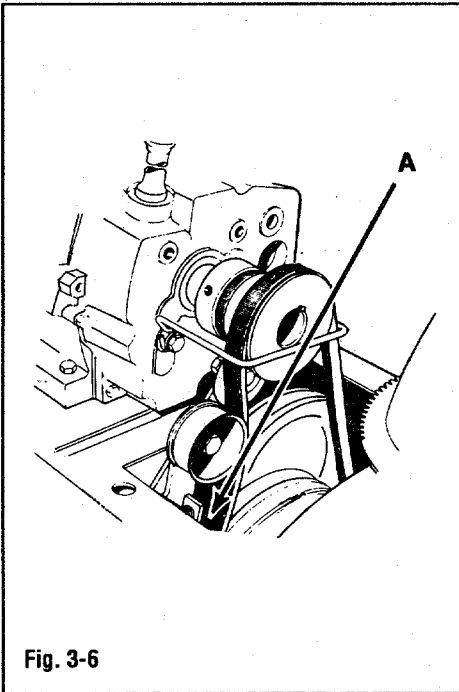
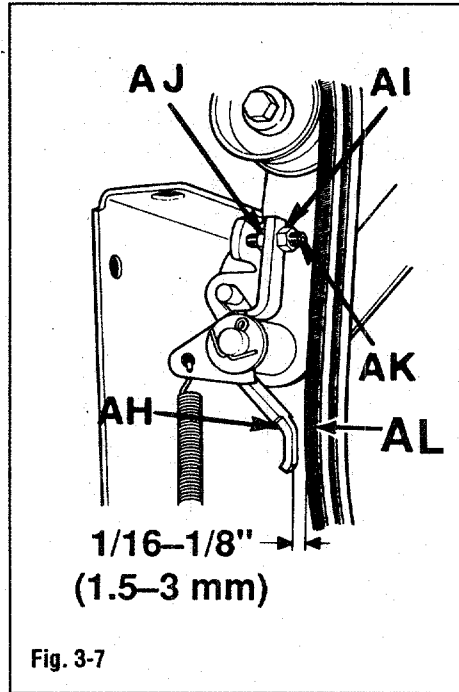

Fig. 3-6
Fig. 3-7
- A. Fully depress and hold auger drive handlebar control lever (N). A second person may need to hold handle down.
- B. Look down through pulleys and belts at front of engine (A, Fig. 3-6). Check gap between brake arm (AH, Fig. 3-7) and belt (AL). Gap should measure between 1/16" and 1/8" (1.5–3 mm).
- C. To adjust gap, loosen nut (AI). Hold set screw (AK) in place with an allen wrench and turn nut (AJ) until proper clearance is obtained. Retighten nut (AI).